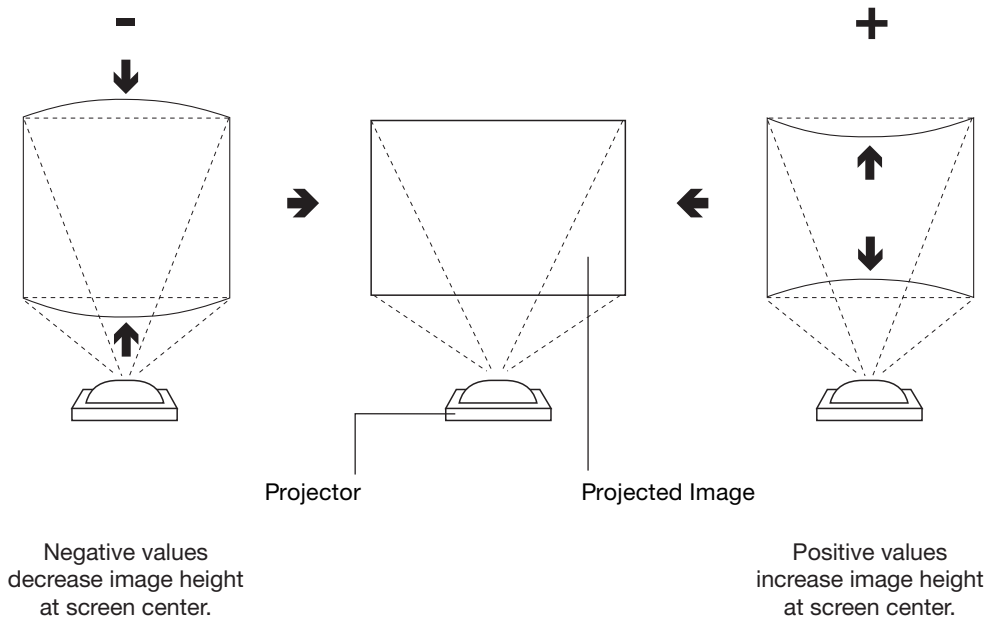

Figure 4-7. Pincushion Correction
- **Pincushion:** "Pincushion" distortion can sometimes occur if the throw distance is very short and/or the projector is equipped with an anamorphic lens (refer to **Installing and Adjusting the CineWide Anamorphic Lens** in Section 3). To correct it, select Pincushion from the GeoCorrection menu and use the ◀ or ▶ button to make the image rectangular. See Figure 4-7.